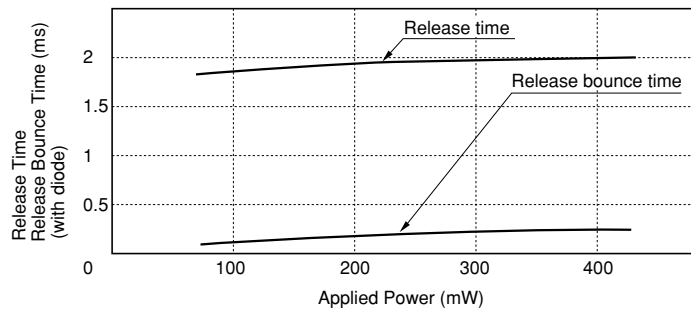

Figure 3.5 Driving Power vs. Timing
Figure 3.5 (1) shows the relations among the power applied to drive the relay, the operate time, and the bounce time. Figure 3.5 (2) shows the relations among the supplied power, the release time, and the bounce time, and Figure 3.5 (3) shows the relations among the supplied power, the release time, and the bounce time when a diode is connected to the coil to absorb surges.
(1) Operate time
(2) Release time
(3) Release time (with diode)